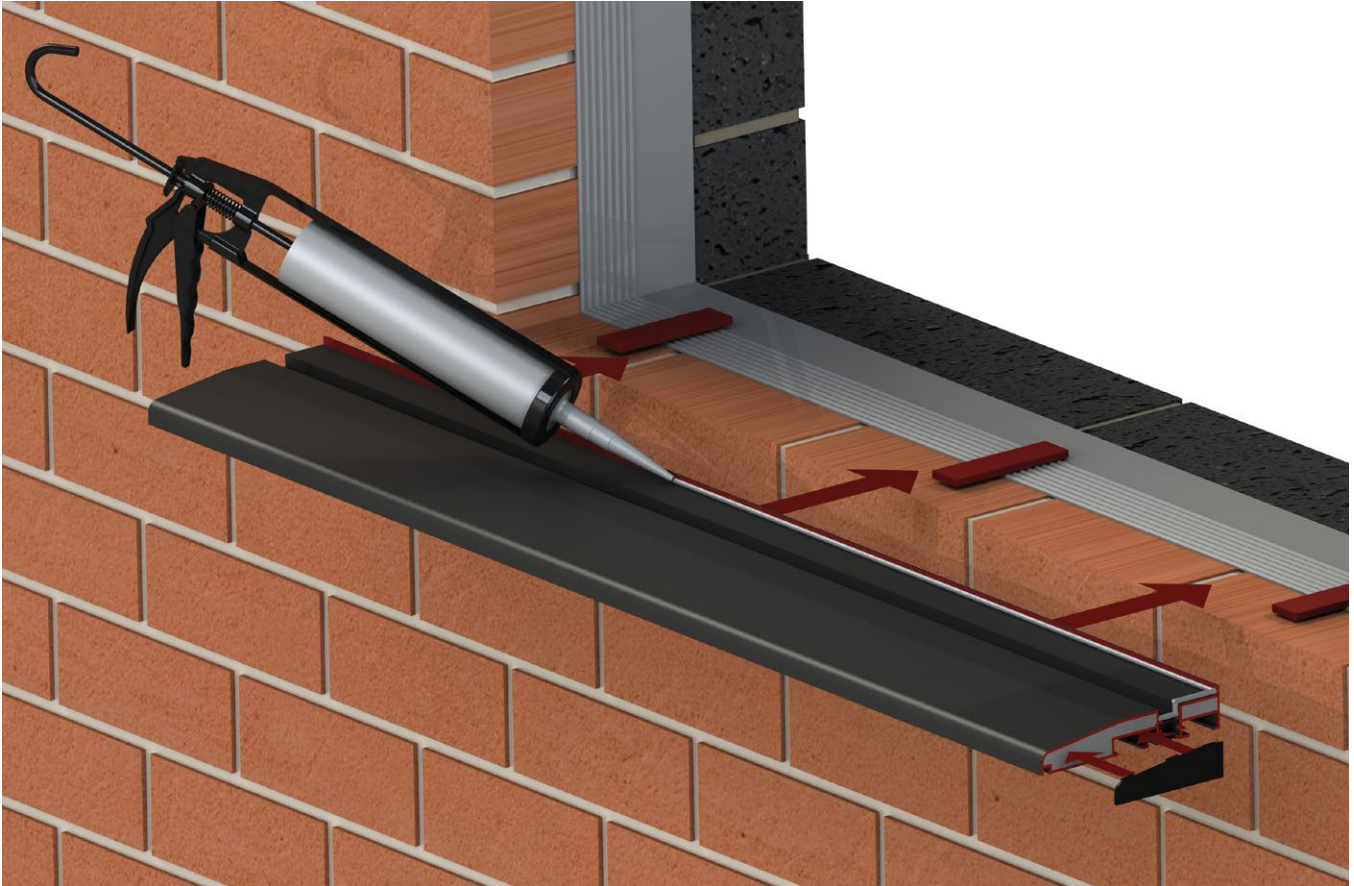

FIG 2
- ▶ 1.2. Using an appropriate silicone sealant, fill the ends of the cill section and install the end caps. (Fig.2)
- ▶ 1.3. Place the cill on the pre-prepared frame packers and re-check for level. Adjust if necessary. (Fig.2)
- ▶ 1.4. Using a silicone sealant, seal the drainage channels adjacent to the brickwork. (Fig.2)
- ▶ 1.5. Run a bead of sealant along the up-stand of the cill. (Fig.2)